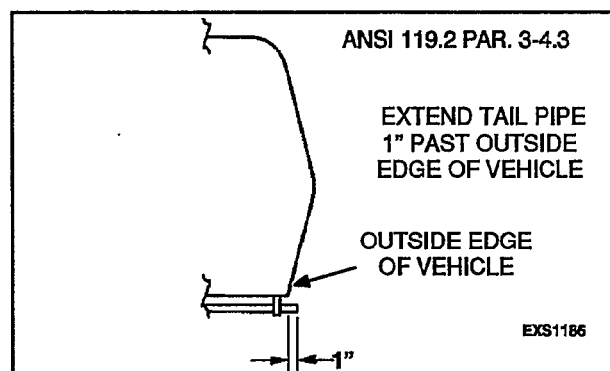

FIGURE 3-14. TAIL PIPE EXTENSION BEYOND VEHICLE
2. Do not terminate the exhaust tail pipe under the vehicle. The exhaust tail pipe must extend a minimum of 1 inch (25.4 mm) beyond the side or end of the vehicle (Figure 3-14).